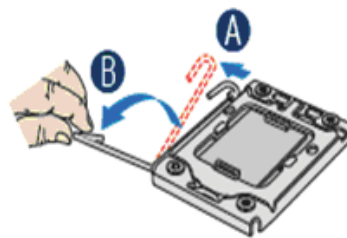
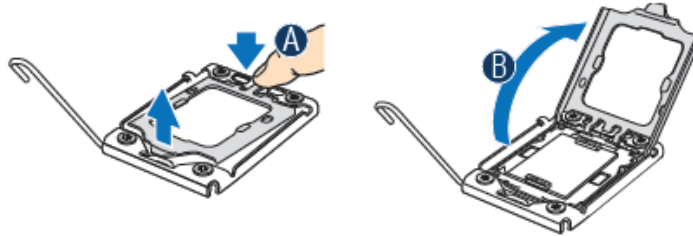

Figure 8. Lifting the Load Lever
Figure 9. Open the Load Plate
5. Locate the processor socket and open the socket lever (see Figure 8).
6. Open the load plate (see letter “A” in Figure 8 and letter “B” in Figure 9).